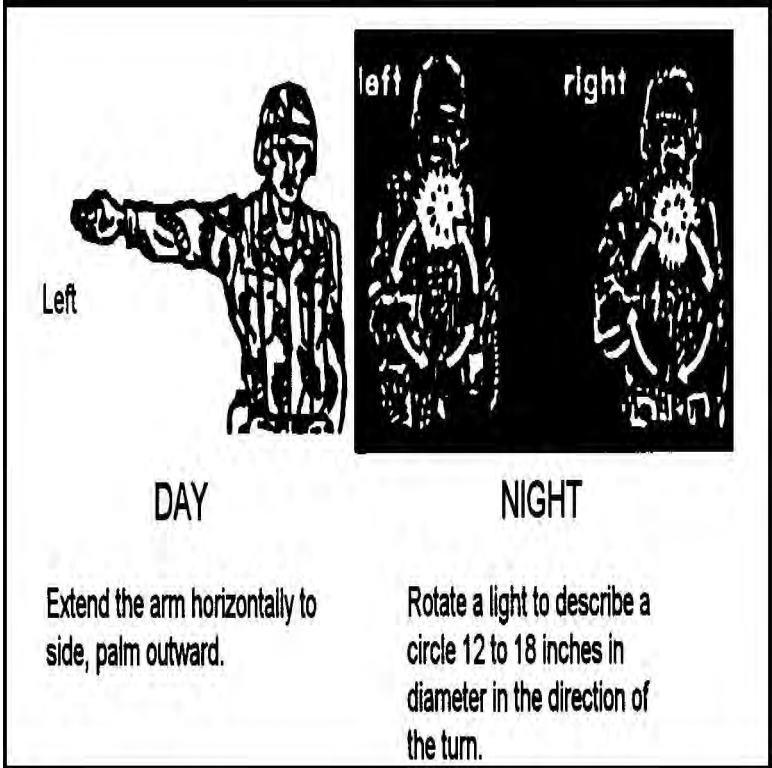

Figure 071-326-0608-27. Right or Left Turn.
p. Perform a slow down signal (Figure 071-326-0608-28).